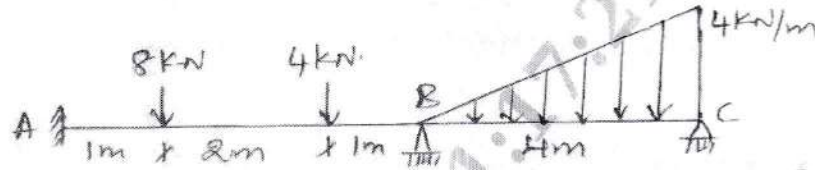

Fig. Q5
**Q.5** Analyze the continuous beam shown in Fig. Q5 by flexibility matrix. Draw SFD and BMD. 20 L4 CO2